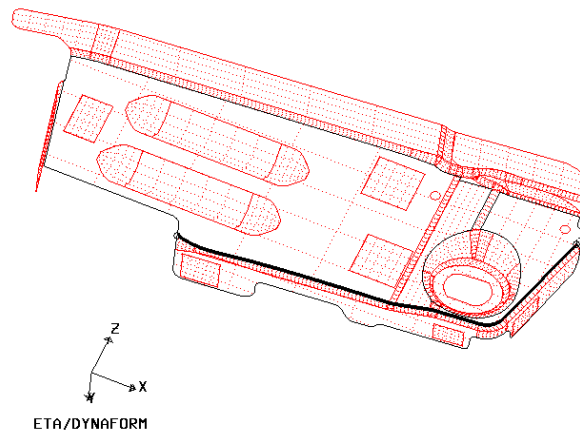
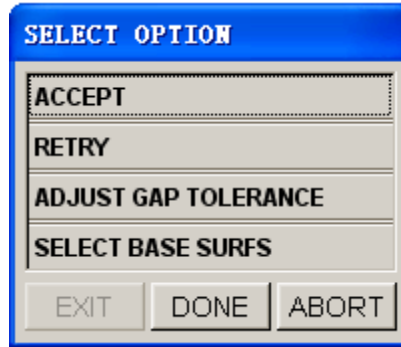

Figure 6.1.6 Unfold Line and Boundary Line
Figure 6.1.7 Select Option dialog box
- After selecting surfaces, the DFE module will determine and highlight the unfold line and the boundary line. As shown in Figure 6.1.6, the bold line is the unfold line, and the other is the boundary line of the base surface and unfolded surface. eta/DYNAFORM displays a SELECT OPTION dialog box as illustrated in Figure 6.1.7. The user has to select an option to continue operation.